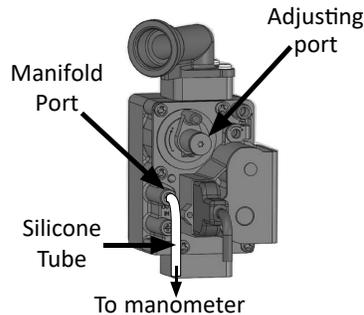

Figure 12: Manifold port location.
5. Remove the screw from the manifold port (See Figure 12).
2. Use a T15 Torx™ to remove the adjusting port cover. See Figure 12.
8. After the gas pressure has been set, remove the manometer tube, and re-install the manifold port screw and adjusting port cover. See Figure 12.